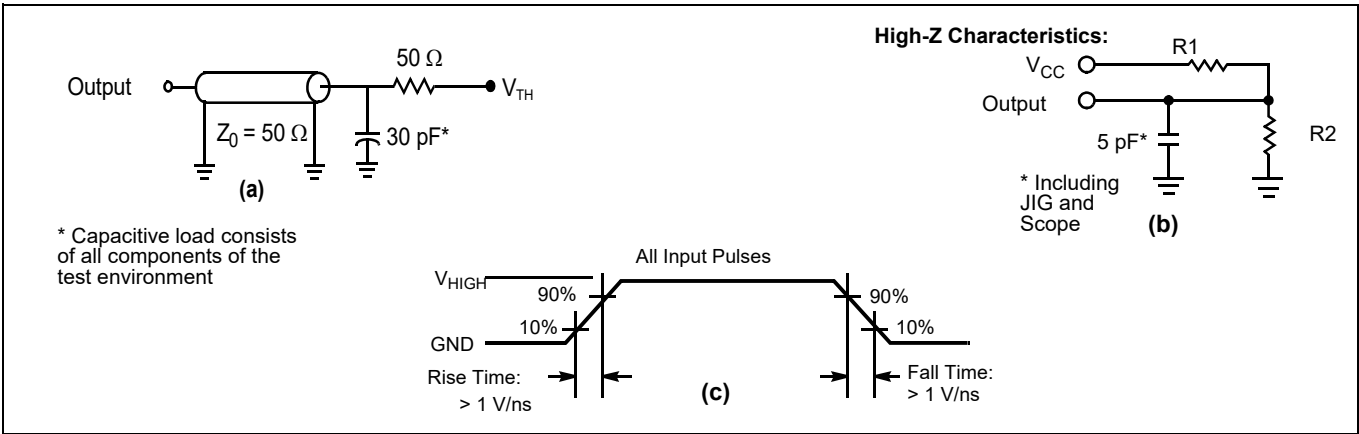

Figure 2 AC test loads and waveforms[10]
14. Test conditions assume signal transition time (rise/fall) of 3 ns or less, timing reference levels of 1.5 V (for  $V_{\text{CC}} \geq 3 \text{ V}$ ) and  $V_{\text{CC}}/2$  (for  $V_{\text{CC}} < 3 \text{ V}$ ), and input pulse levels of 0 to 3 V (for  $V_{\text{CC}} \geq 3 \text{ V}$ ) and 0 to  $V_{\text{CC}}$  (for  $V_{\text{CC}} < 3 \text{ V}$ ). Test conditions for the read cycle use output loading shown in part (a) of **Figure 2 on page 11**, unless specified otherwise.
18.  $t_{\text{HZOE}}$ ,  $t_{\text{HZCE}}$ ,  $t_{\text{HZWE}}$ ,  $t_{\text{LZOE}}$ ,  $t_{\text{LZCE}}$ , and  $t_{\text{LZWE}}$  are specified with a load capacitance of 5 pF as in (b) of **Figure 2 on page 11**. Transition is measured  $\pm 200 \text{ mV}$  from steady state voltage.
14. Test conditions assume signal transition time (rise/fall) of 3 ns or less, timing reference levels of 1.5 V (for  $V_{CC} \geq 3$  V) and  $V_{CC}/2$  (for  $V_{CC} < 3$  V), and input pulse levels of 0 to 3 V (for  $V_{CC} \geq 3$  V) and 0 to  $V_{CC}$  (for  $V_{CC} < 3$  V). Test conditions for the read cycle use output loading shown in part (a) of Figure 2 on page 11, unless specified otherwise.
18.  $t_{HZOE}$ ,  $t_{HZCE}$ ,  $t_{HZWE}$ ,  $t_{LZOE}$ ,  $t_{LZCE}$ , and  $t_{LZWE}$  are specified with a load capacitance of 5 pF as in (b) of Figure 2 on page 11. Transition is measured  $\pm 200$  mV from steady state voltage.